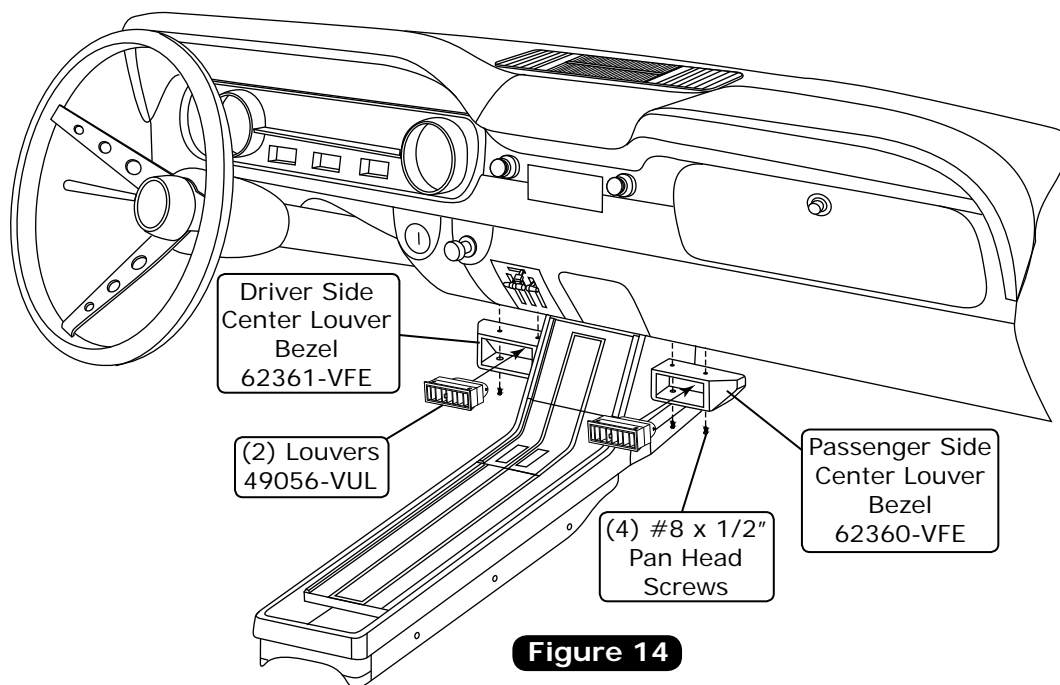

Figure 14
1. Mount the driver and passenger side center louver bezels under the dash using (4) #8 x 1/2" pan head screws as shown in Figure 14, below.
2. Install the louvers into the center louver bezels as shown in Figure 14, below.